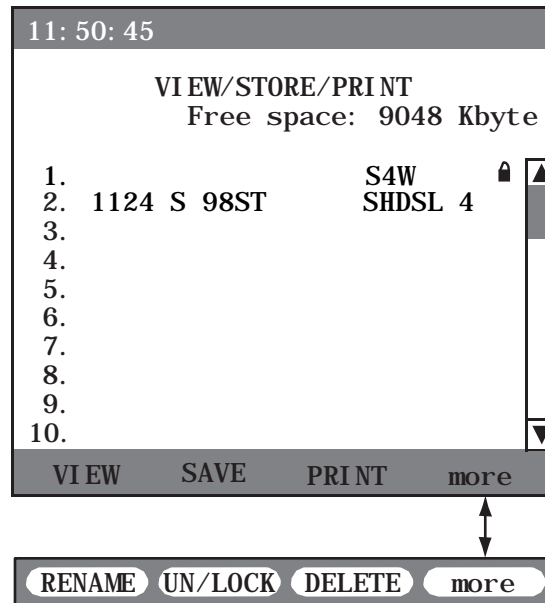

Figure 41 View/Store/Print List Screen
2. Select the desired file with ▲,▼ and press UN/LOCK (more, F2) and the file is locked or unlocked as indicated to the right of the file name. Refer to the lock icon shown in Figure 41.
- Press UN/LOCK (more, F2) if the file is locked as indicated by the lock icon as in Figure 41.